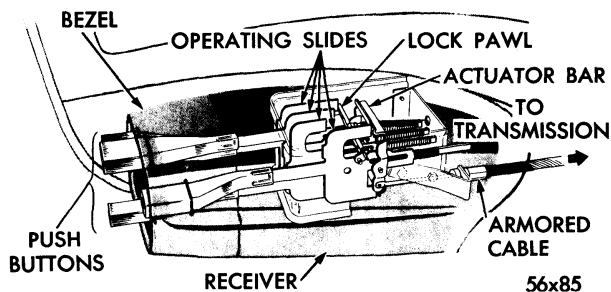

Fig. 15—Push Button Control Unit (Phantom View) (Early Design)
12. GEARSHIFT CONTROL UNIT AND LINKAGE (Fig. 15)